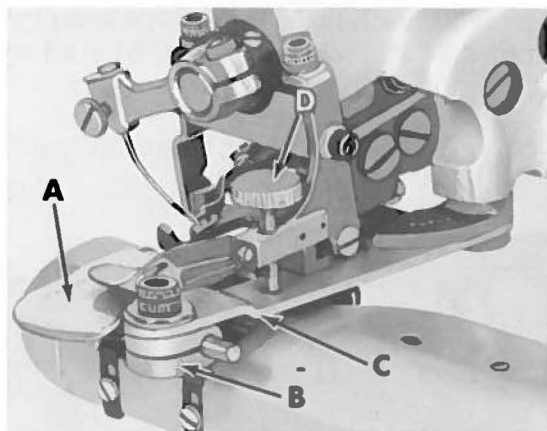

Fig. 13
On Style 37500-9, the folder (A, Fig. 13) should be set as close to the needle as possible, with the ridge former positioned to present raw edge of hem to needle. Folder must also be positioned to clear path of looper. Four settings for the height of folder are available to suit the convenience of the operator. Folder clamp (B) can be assembled on the top or bottom of bracket (C) or the bracket can be turned over, using clamp on top or bottom of same. Moving the folder laterally or tipping its nose can be accomplished by loosening the screw in clamp (B), position as required to obtain desired results and retighten screw. To raise or lower the entire folder slightly, adjust thumbscrew (D).